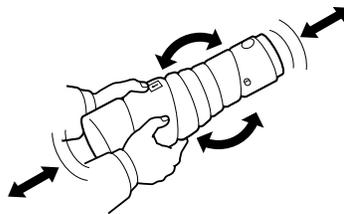

Figure 5-29
2. Shake the Toner Bottle vigorously while rotating the bottle at least five times, Figure 5-29.